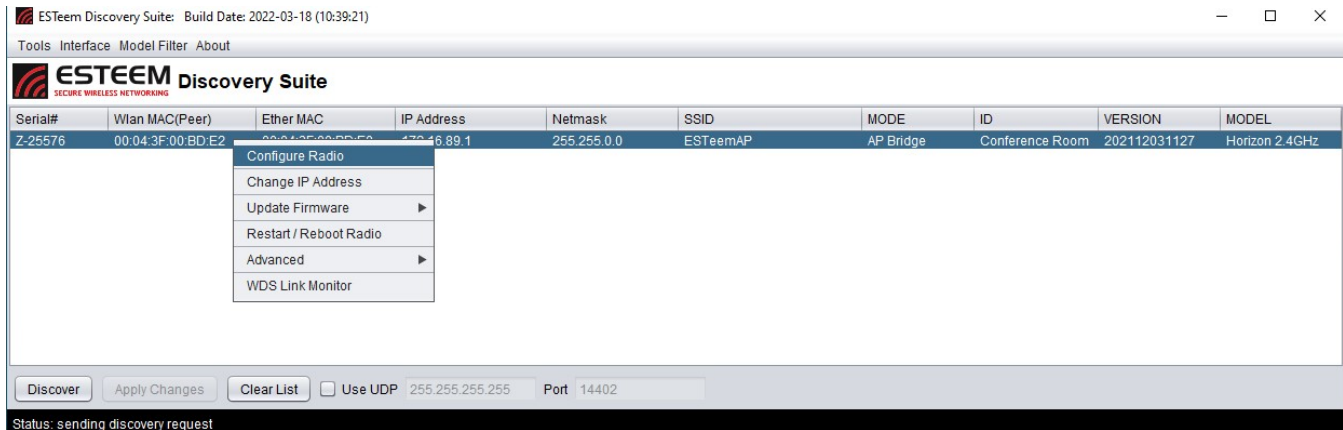
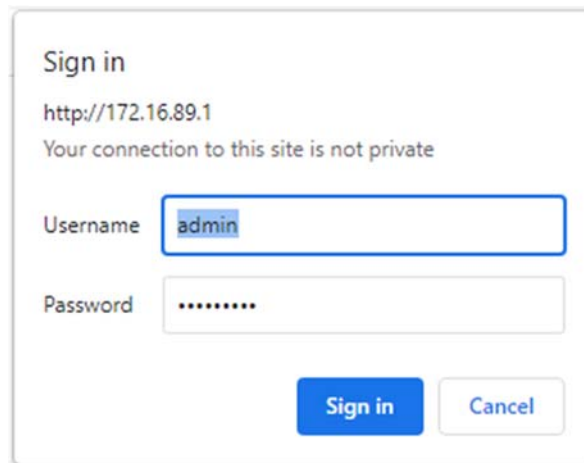

Figure 3: Opening Radio Configuration Software
Figure 5: ESTEEM Web Page Log-on Screen
Ethernet Bridge Mode Example 3 (Figure 3)Point to Multipoint with Mesh Repeater Links
- If changes were made to the IP address, you will need to press the *Discover* button again to show the changes. Right-mouse click on the Horizon and select *Configure Radio* button to begin programming (Figure 3).
To quickly open a web browser page to the IP address programmed in the Horizon, “right-mouse” click on the Horizon’s MAC address and select Configure radio from the menu (Figure 3). If your computer is configured for the same IP subnet at the ESTeem Horizon wireless modem, you will be asked to sign in with the Username and Password (Figure 5). You can now begin programming the Horizon for your application.